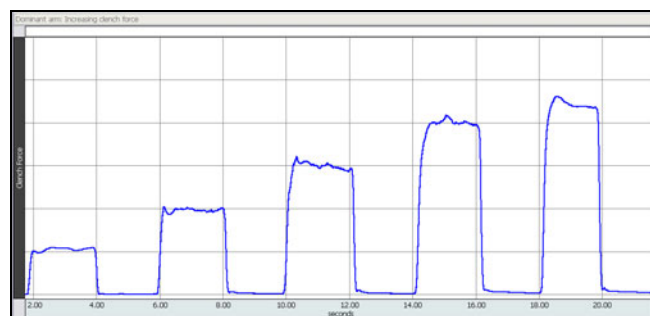

Fig. 2.11 Example Increasing Clench Force data
- The data shown above (Fig. 2.11) is from a **Subject** who was able to maintain an even force throughout the clench. Your data may be correct even if your peaks are not “flat.”